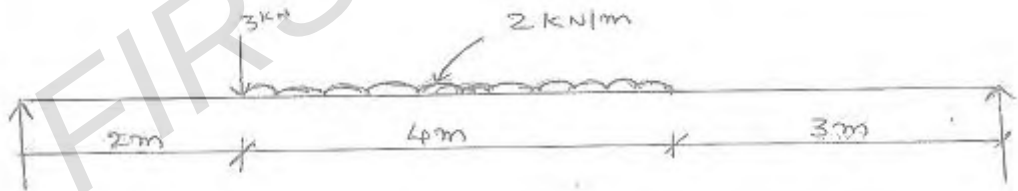

Figure 1
8. Sketch the shear force and bending moment diagrams showing the salient values for the loaded beam shown in the figure1 below.